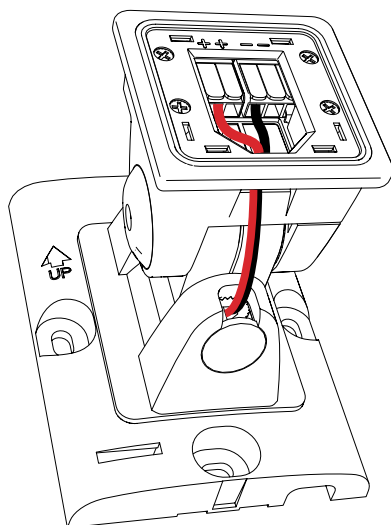

Figure 2. Wire path to wire the ClickMount Bracket (single wire shown)
2. Strip the insulation 0.5" (13 mm) from the end of each wire. Lift a lever up and insert the wire fully into the tool-less wiring terminal (polarity is noted above the terminals). Press the lever back down on the wire to secure the connection. (Figure 2) Ensure the lever is fully snapped down and each wire is tight and can't be pulled out. Stranded wire should be twisted or crimp-on wire ferrules used to ensure all strands are captured.